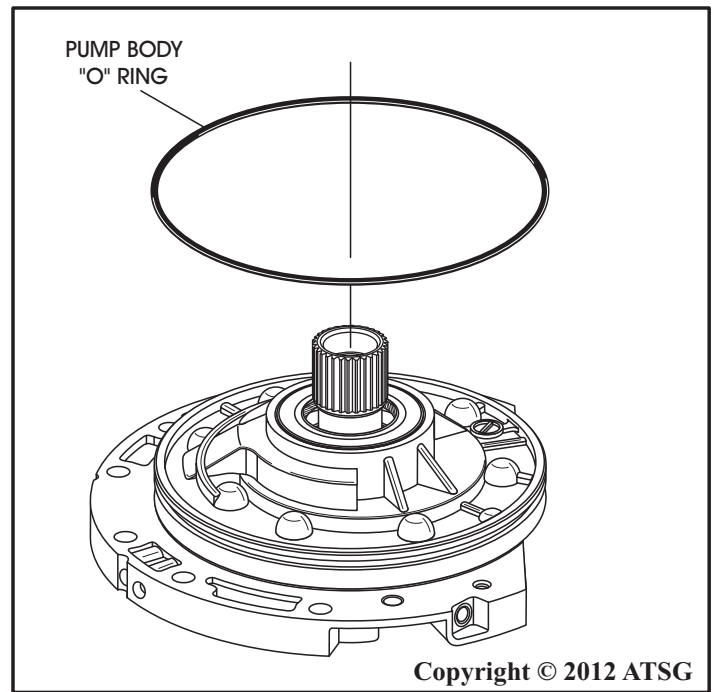

Figure 206
15. Install the oil pump to case "O" ring seal, as shown in Figure 206, and lubricate with small amount of Trans-Jel®.